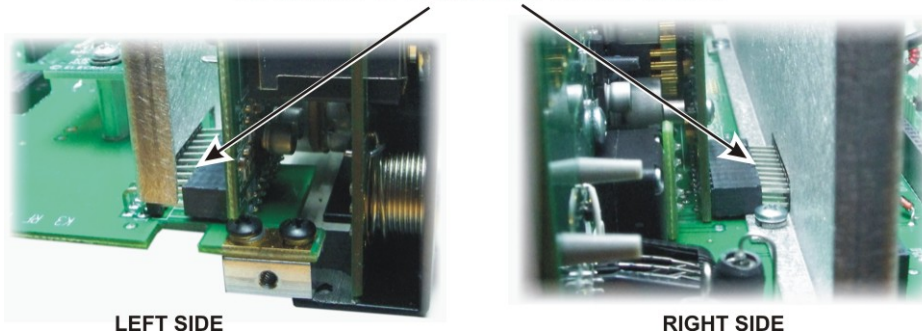
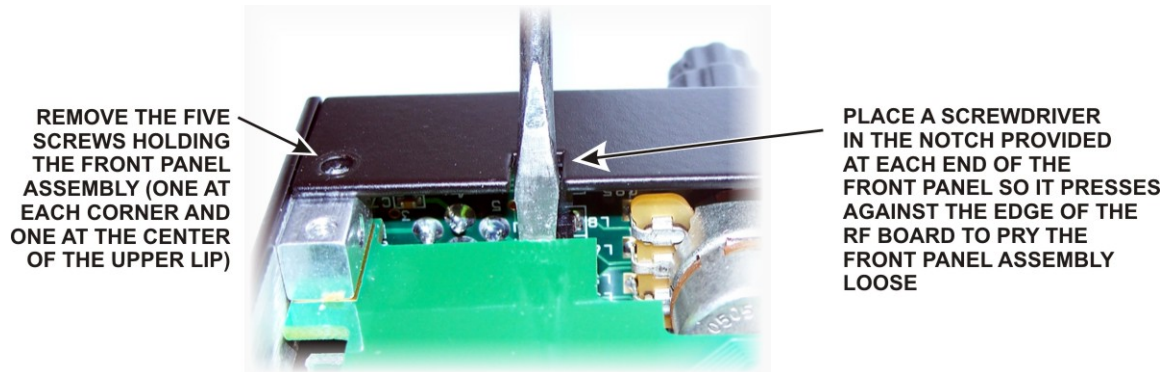

Figure 62. Mounting Front Panel Assembly - Connectors P50 and P51.
Figure 63. Removing the Front Panel.
- Look at the two multi-pin connectors on the top of the RF board to see if they are engaging the corresponding connectors on the front panel assembly (see Figure 62). Adjust the position of the RF board or the front panel assembly to ensure they are mating properly.
⚠ REMOVING THE FRONT PANEL: If you need to remove the front panel assembly, remove the five screws holding it to the chassis (three on the top lip and two on the bottom), turn the unit upside down and use a screwdriver in the two pry slots provided as shown in Figure 63. Do not insert the screwdriver deep enough to strike components on the boards! Pry each end in short increments until the connectors separate. Either a blade (as shown) or Phillips screwdriver may be used. Note that you may need to remove the left side panel and the 2D mounting screw shown in Figure 62.